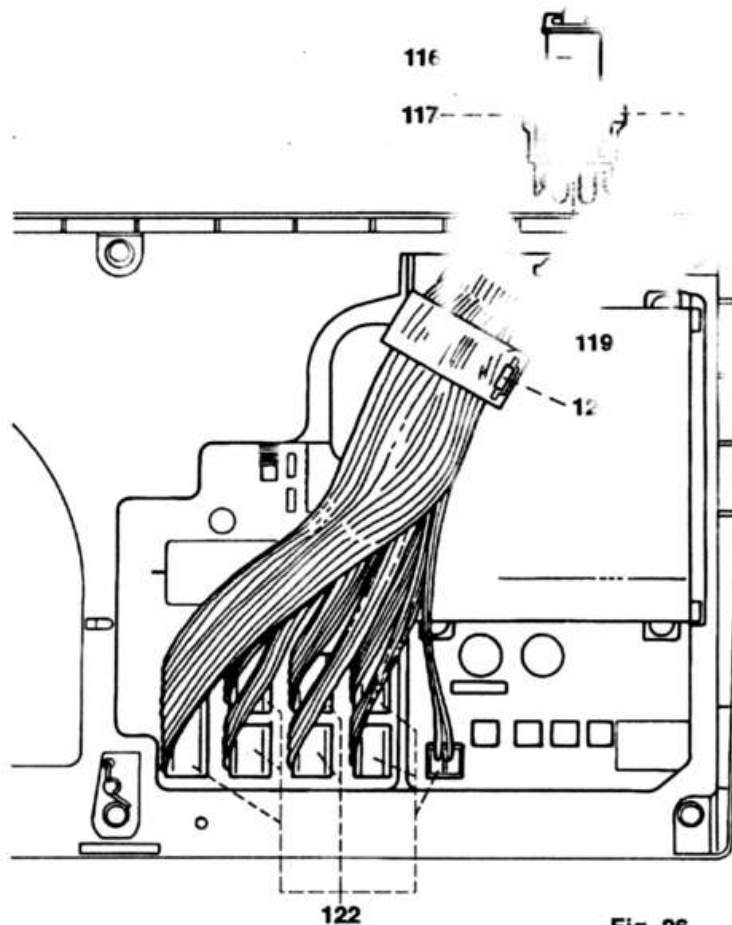

Fig. 26
- Remove the eight flat wires with their plugs 122 from the circuit board (fig. 26).